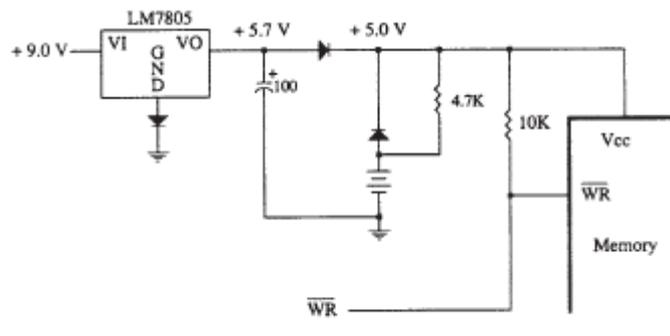

Figure 12-7: A battery-backed-up memory system using a NiCad or gel cell
- The ISP stores the contents of all internal registers into a battery-backed-up memory. (Figure 12-7)